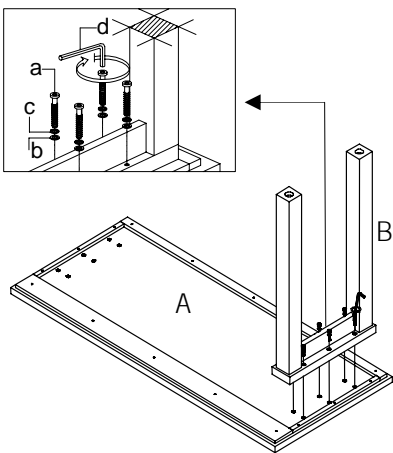

Fig. 1
1. Place the desktop (A) upside down on a carpeted or scratch-free work surface. The cardboard packaging can also be used as a work surface.
2. Determine which side the table legs will be installed. Align the 6 pre-drilled holes on the leg set (B) with the 6 pre-inserted nuts on the desktop (A). Insert an Allen bolt (a) with a spring washer (c) and flat washer (b) into each of the pre-drilled holes of the leg set (B) and into the desktop (A). Secure with the Allen key (d). Note: Do not tighten until all bolts are aligned and inserted. (Fig. 1).